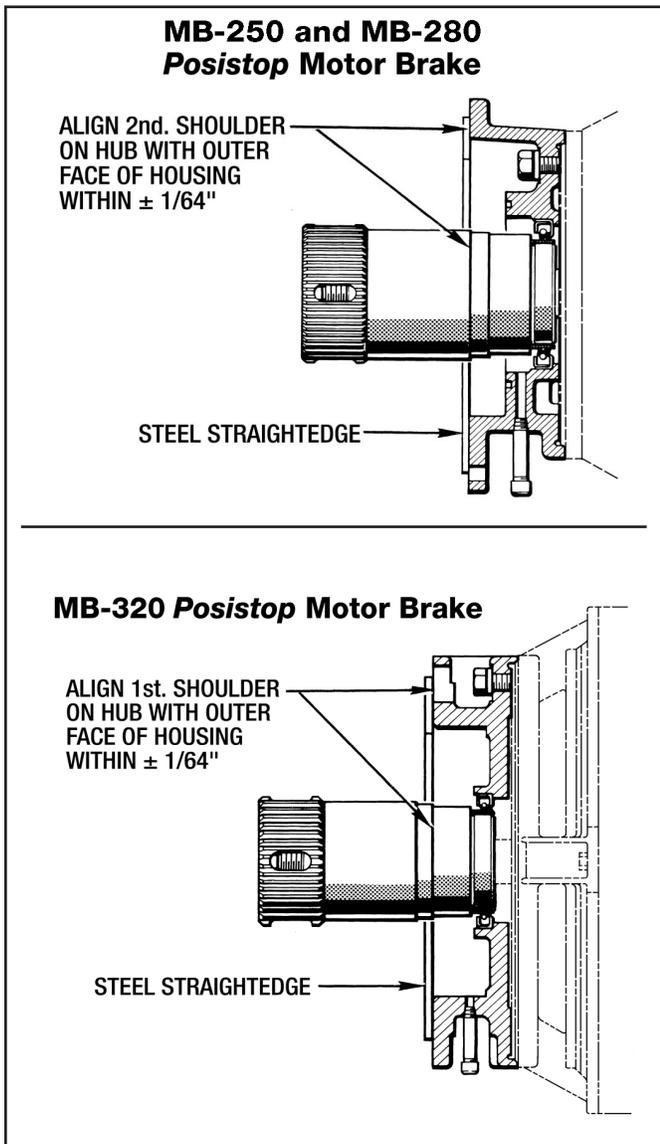

Figure 5 - Hub Alignment - Step 2
2. Tap the hub lightly to align the proper shoulder of the hub with the housing face (straightedge). This alignment should be within plus or minus 1/64" (See Figure 5).